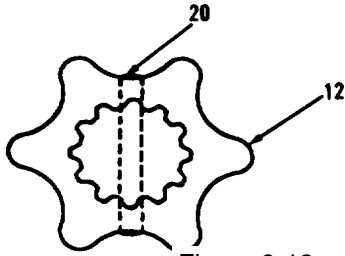

Figure 8-12.
- 7. Pin (20) in sleeve assembly must be in alignment with gear (12, Figure 8-12).